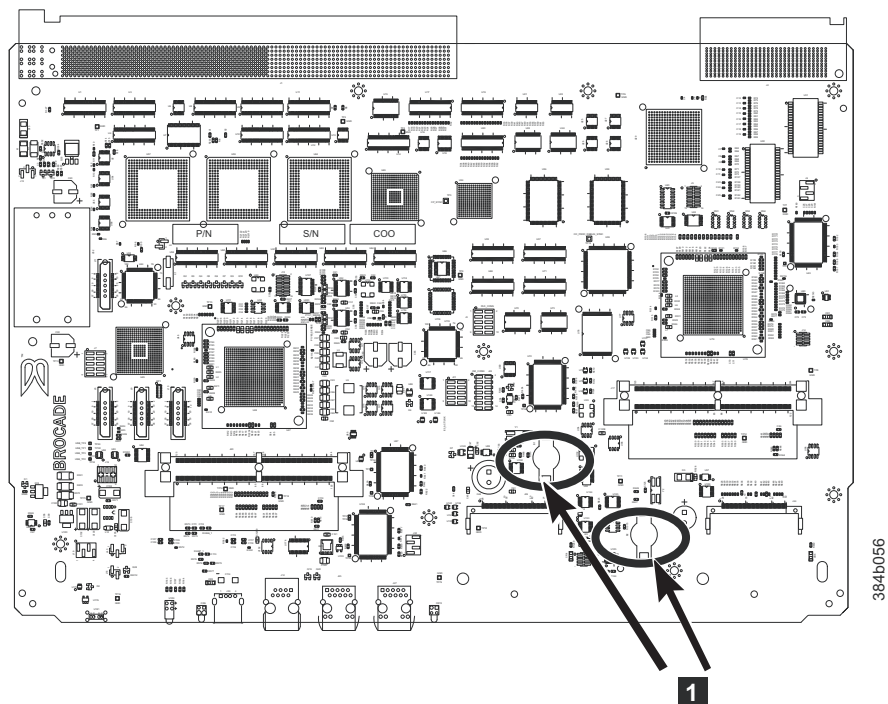

Figure 51. Battery locations on the CP8 blade
6. Go to the following locations and remove the two BR1225 batteries from each of the PCBAs (see **1** in Figure 51):